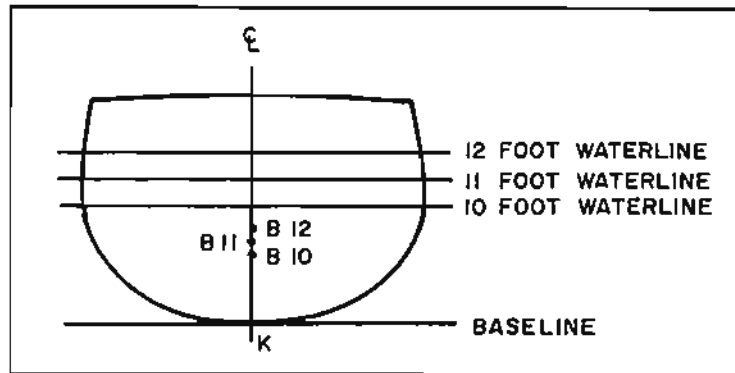
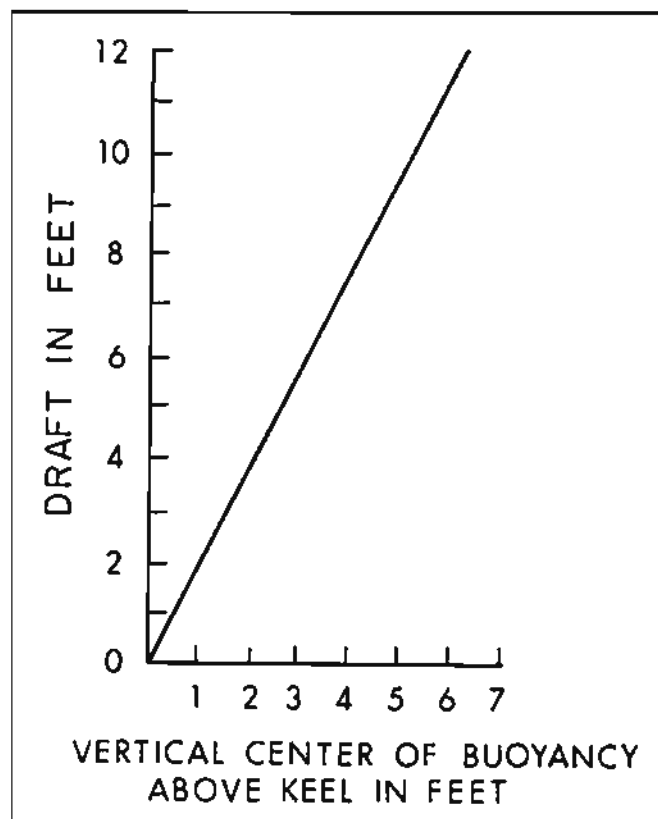

Figure 11-5. Successive centers of buoyancy (B) for different drafts.
Figure 11-6. KB curve.
As the draft increases, the center of buoyancy (B) rises with respect to the keel (K). Figure 11-5 shows how different drafts result in different values of KB, the height of the center of buoyancy from the keel (K). A series of values for KB is obtained and these values are plotted on a curve to show KB versus draft. Figure 11-6 illustrates a typical KB curve.